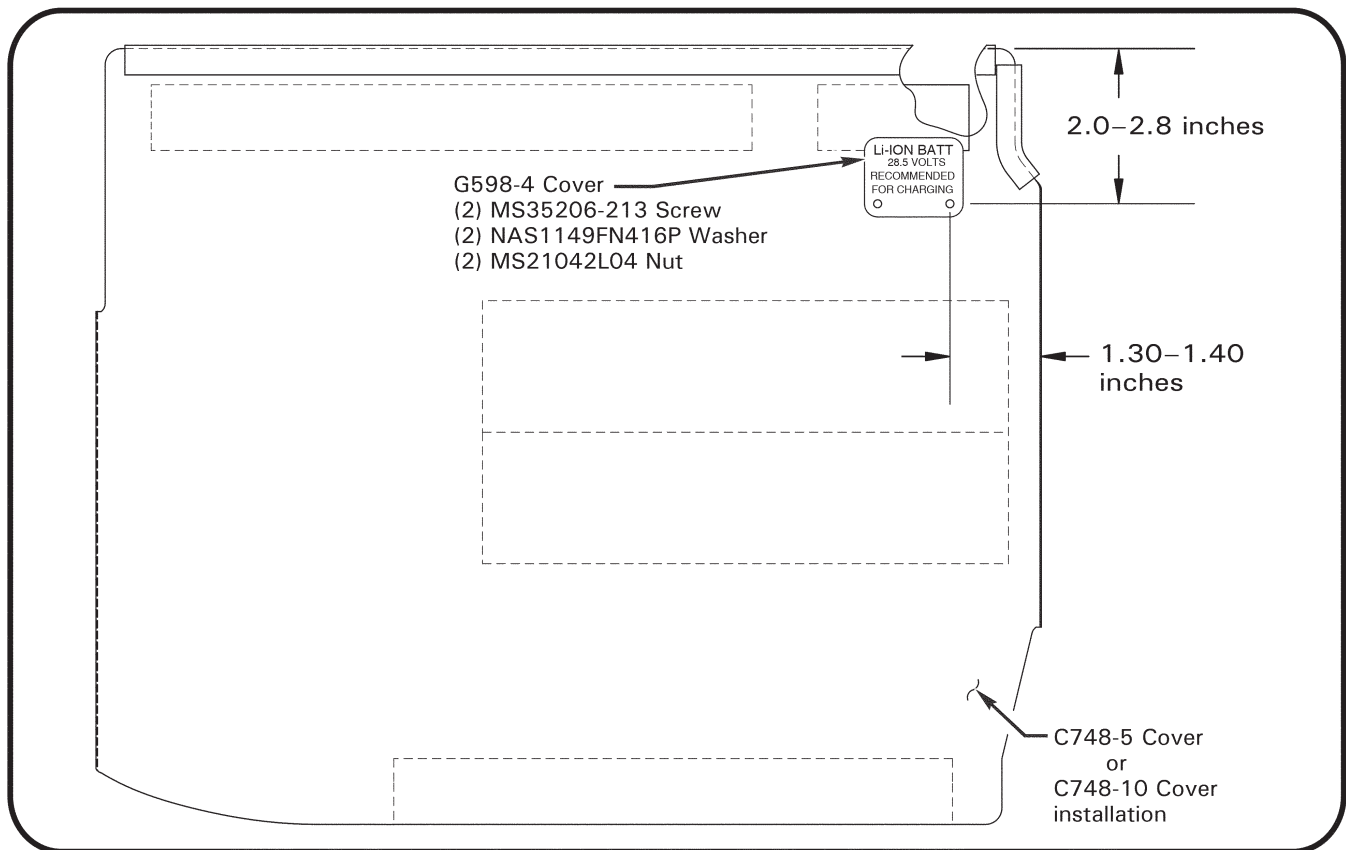

FIGURE 5 G598-4 Cover installation
26. Refer to Figure 5. Verify adequate clearance on reverse side; using a drill stop, match drill G598-4 cover to C748-10 or C748-5 cover assembly as shown. Deburr holes and clean up debris.